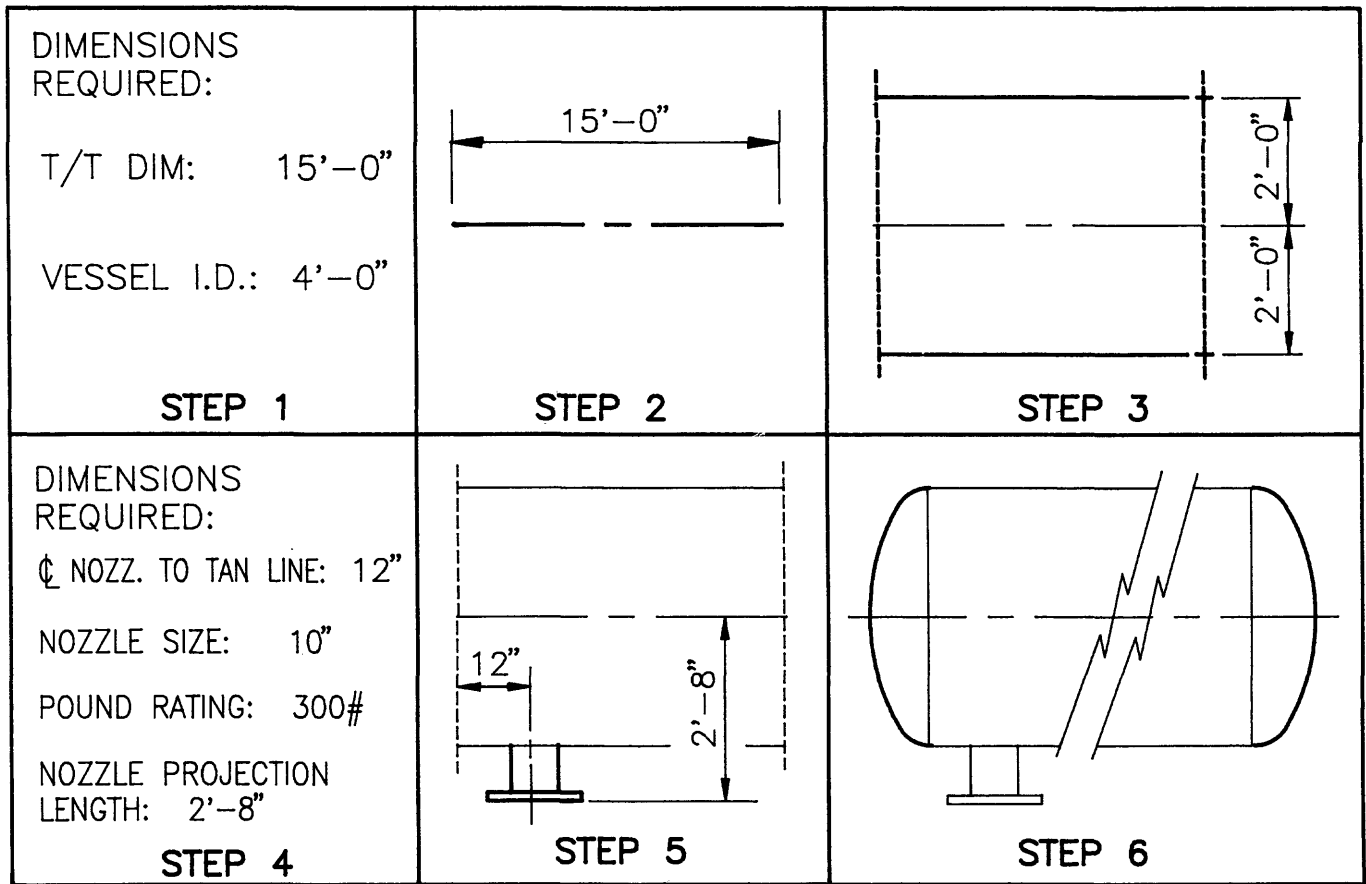
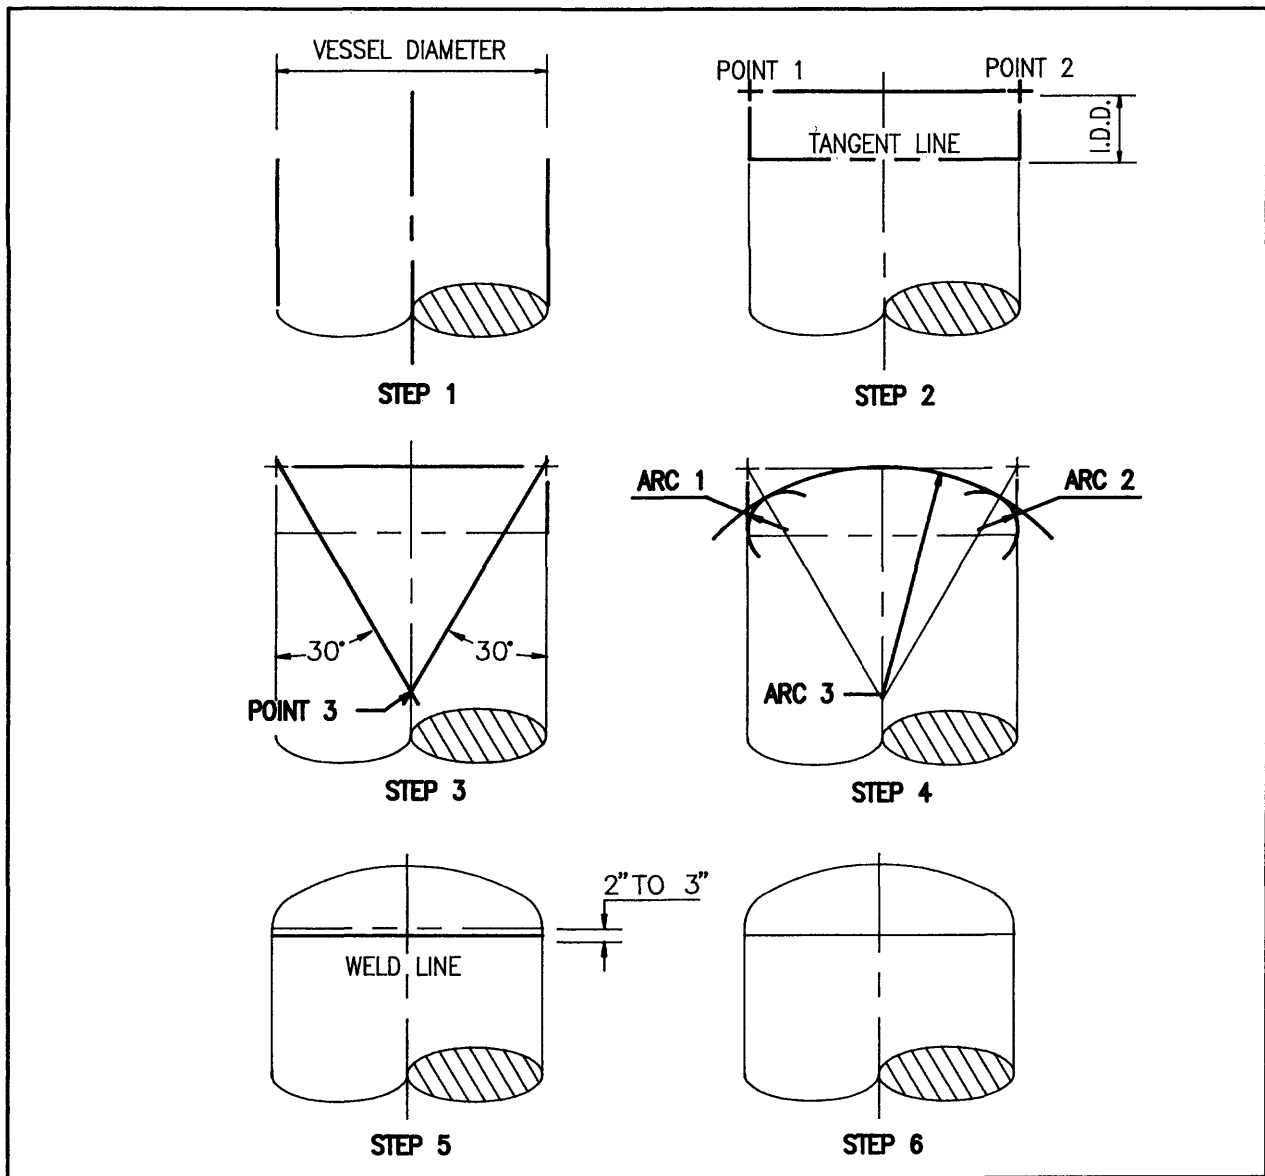

Figure 6-25. Steps for drawing the plan and elevation views of a horizontal vessel.
Figure 6-26. Steps for drawing a 2:1 Semi-elliptical head.
Piping drawings created by hand can be tedious and time-consuming. The step-by-step process shown in Figure 6-25 can be used as a guide to develop the various components of a horizontal vessel. The measurements used to draw the plan and elevation views of the vessel are taken from the vendor data drawing shown in Figure 6-24. This vessel will be equipped with a 2:1 semi-elliptical head. Drawing a vessel's shell is not difficult, but development of the 2:1 semi-elliptical head requires the step-by-step procedure shown in Figure 6-26.
Step 6. Use the drawing procedure shown in Figure 6-26 to draw the 2:1 semi-elliptical heads.